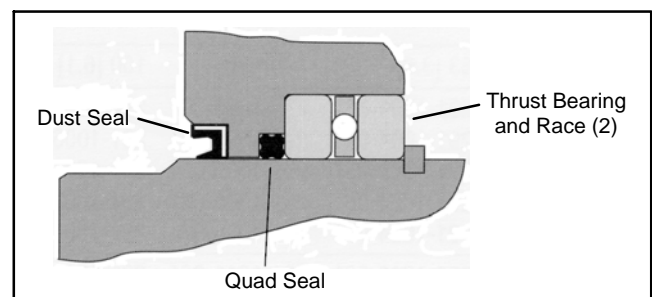

Figure 86
8. Put the thrust bearing and races into the housing. The thrust bearing goes between the two races (Fig. 86).